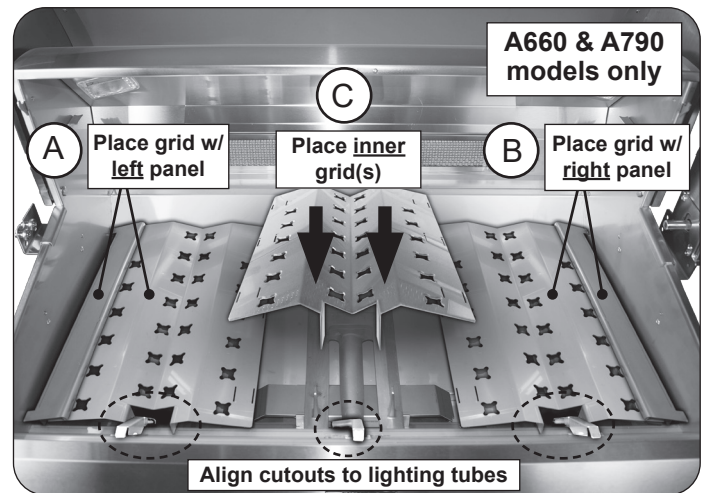

Fig. 31-2 Install flavor grids
1. Locate the flavor grid with the pre-attached **left panel** (see Fig. 31-2, A).
2. Carefully rest the grid onto the rear and front flavor grid rests while ensuring the flavor grid cutout clears the left-most lighting tube. See Fig. 31-2, A.
3. Locate the flavor grid with the pre-attached **right panel** and place it on the right side of the grill (see Fig. 31-2, B).
4. Take the inner grid(s) and install between the left and right flavor grids (see Fig. 31-2, C).